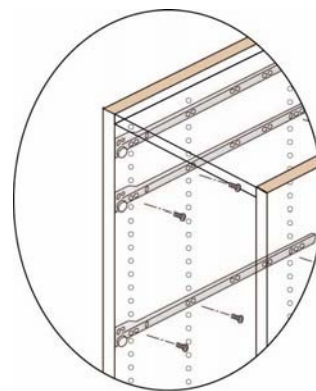

Fig 7
13. Fasten the drawer runners to the side panels of the base cabinet, if you have not already done so. Use two (2) Euro screws per runner to secure each runner to the panel. (See Fig. 7.)